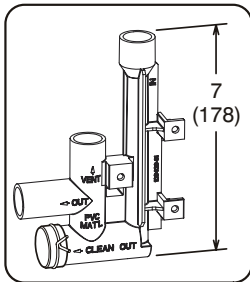

Figure 49
- 3 - Install the cap over the clean out opening at the base of the trap. Secure with clamp. See Figure 49.
- 4 - Install drain trap using appropriate PVC fittings, glue all joints. Glue the provided drain trap as shown in Figure 49. Route the condensate line to an open drain.